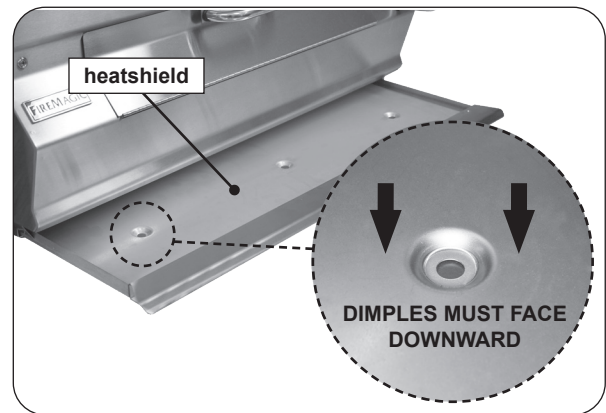

Fig. 12-2 Install drip tray
1. Place the heatshield inside the drip tray **with the dimples facing downward** (See Fig. 12-2).